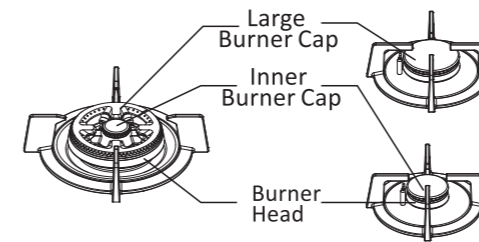
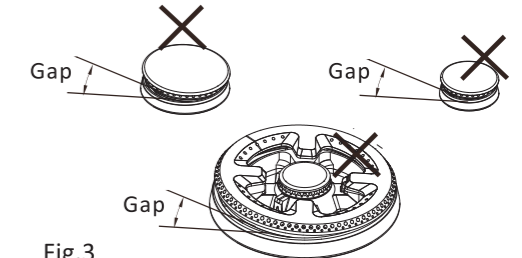

Fig.2
Fig.3
Install the Inner Burner Cap and Outer Burner Cap into Burner Head (Fig.2), do not tilt or leave gap during installation (Fig.3). If incorrect placement for both of them and used, the burner head will be deformed, breaking of glass, and increase the risk of releasing carbon monoxide (CO).